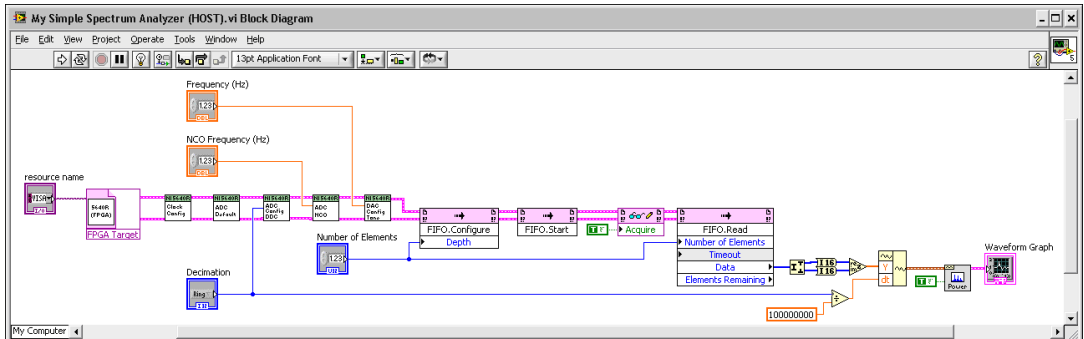

Figure 20. Host VI Block Diagram With Controls and Indicators
27. Add the following controls and indicators, as shown in Figure 20: